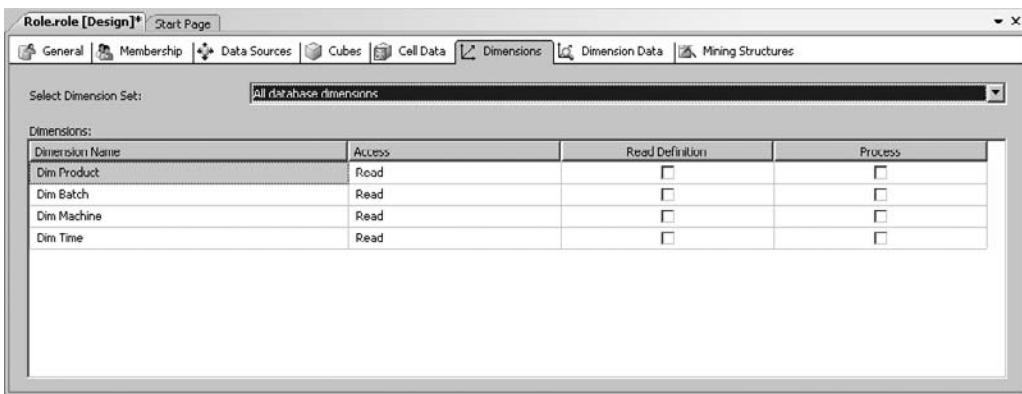

Figure 11-25 The Dimensions page of the Role Design tab
13. Select the Dimensions tab. On this page, we set the access rights for the dimensions. Leave the Access drop-down list set to Read for all of the dimensions. Do not allow this role to read the definitions or process any of the dimensions. The Dimensions page of the Role Design tab is shown in Figure 11-25.